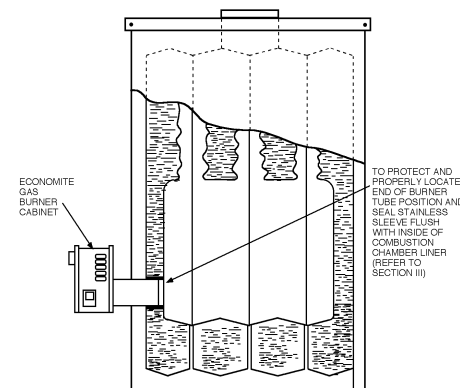

**Figure 1: Dry Base Boiler with Combustion Chamber Liner (Warm Air Furnace Construction is Similar)**
- The burner tube, or the stainless steel sleeve that is included with the burner, must be sealed air tight into the combustion chamber liner opening with refractory material as shown by Figures 1 and 2. The sleeve is preferred as it is designed to properly locate the end of the tube relative to the inside wall of the combustion chamber, and to permit burner removal without breaking the seal.
**⚠ WARNING:** Burner cabinet must be mounted in orientation shown in Figures 1 and 2. Any other mountings may cause a dangerous condition, and will void burner warranty and agency approvals. Non-standard arrangements may be available for some models; consult factory for details if required.